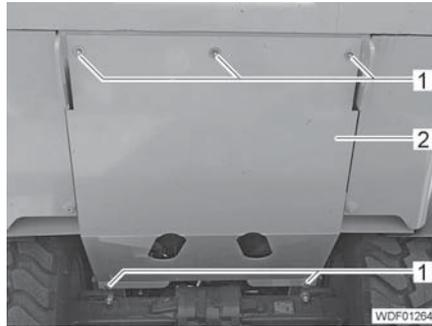

Fig. 273 Base plate attachment
- With a second person, hold the base plate and simultaneously unscrew 5 screws (Fig. 273,1).
- Remove the base plate (Fig. 273,2).
- With a second person, carefully press the base plate (Fig. 273,2) from below against the rear carriage.
- Insert and tighten 5 screws (Fig. 273,1) with spring lock washers and disks.